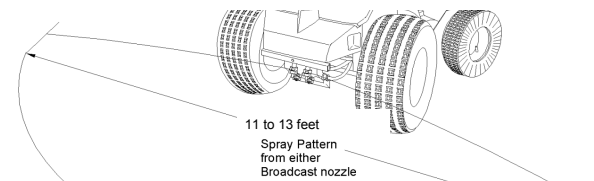

FIGURE 17, Broadcast spray pattern
With the **20 PSI** Pressure Unloader Valve installed at the factory, the sprayer has a **7-FOOT** effective pattern width and an **11 FEET** (3.4 meters) overall pattern width using a single front mounted broadcast nozzle, as shown in **FIGURE 17**. The spray distribution pattern allows the use of a **7-FOOT** (2.1 meter) overlap spreader travel pattern to achieve an even and complete coverage of the sprayed product on the entire turf area by overlapping the edge of
- Spray for **15 SECONDS** until the spray pattern is visible on the surface. The spray pattern should resemble the **11-13 FEET** spray pattern in **FIGURE 17**. Adjust as follows: